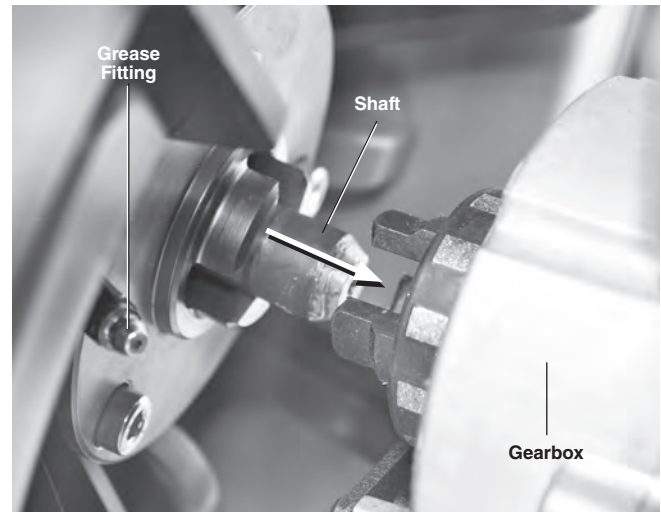

Figure 24 – Changing Drum (Drum Retainer Open, Sliding Back)
4. Securely grasp the drum and slide it approximately 1" (25 mm) away from the gearbox (Figure 24).
6. Reverse process to install drum. Align shaft on back of drum with gearbox and slide the drum toward the gearbox (Figure 24). With hands clear of pinch points, tip the machine back on the wheels and rotate drum
Lubricate machine with general purpose grease at grease fitting located at connection of guide tube and drum (*Figure 7*), back side of the drum (*Figure 24*) and on AUTOFEED Unit (*Figure 9*). Lubricate anytime the drum is changed or removed, anytime grease may have been removed by cleaning, and at minimum, every 20 Hours of runtime.